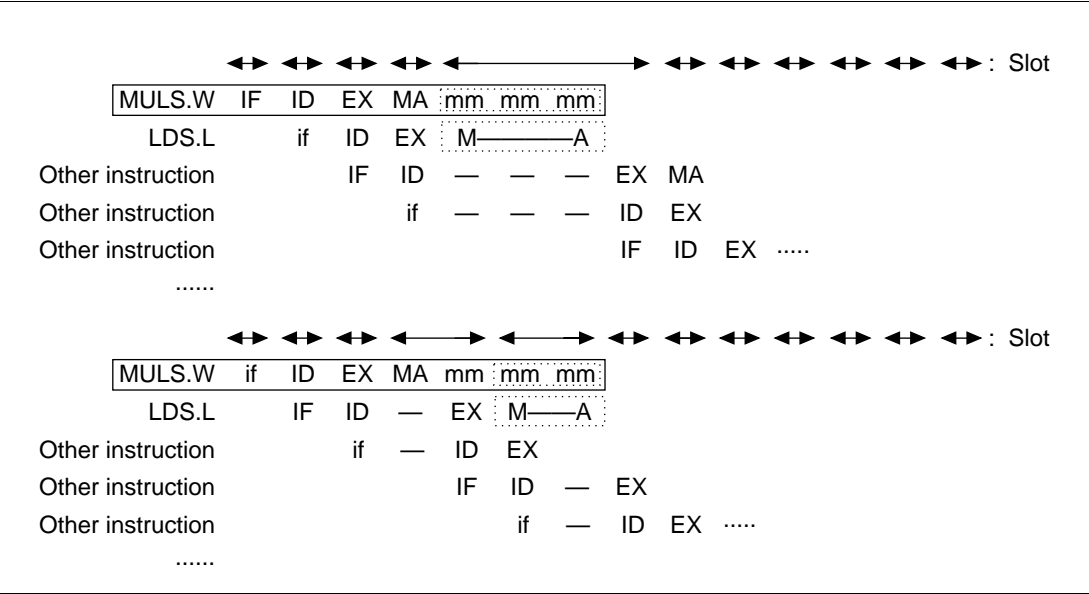

Figure 7.61 LDS.L (Memory) Instruction Immediately After a MULS.W Instruction
- When the contents of a MAC register are loaded from memory using an LDS instruction, an MA stage for accessing the memory and the multiplier is added to the LDS instruction, as described later. When the MA of the LDS instruction contends with the operating multiplier (mm), the MA is extended until the mm ends (the M—A shown in the dotted line box in figure 7.61) to create a single slot. The MA of the LDS contends with IF. Figure 7.61 illustrates how this occurs, assuming MA and IF contention.